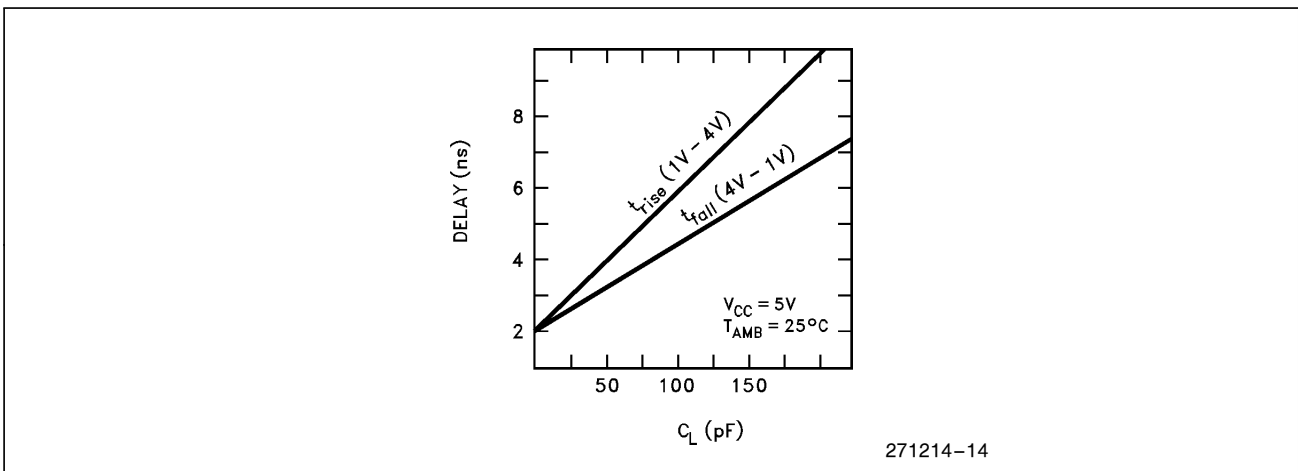

Figure 16
- Specified for a 50 pF load, see Figure 16 for capacitive derating information.